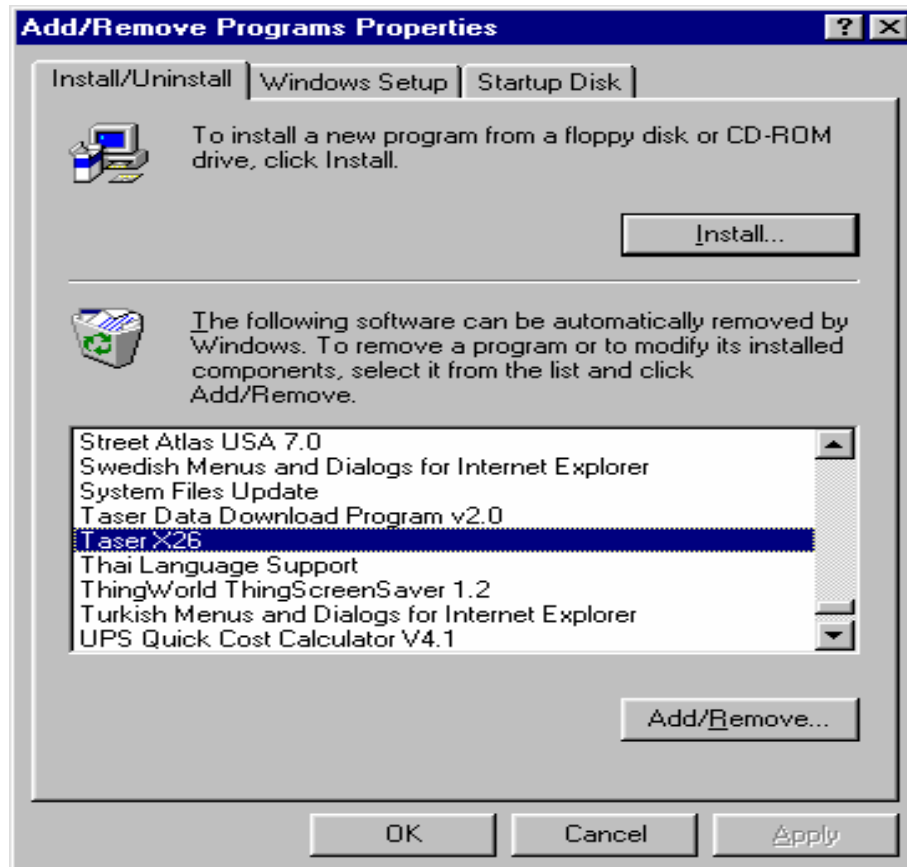

Figure 37
8. Select **Taser X26** then click the **Add/Remove** button (Figure 37).